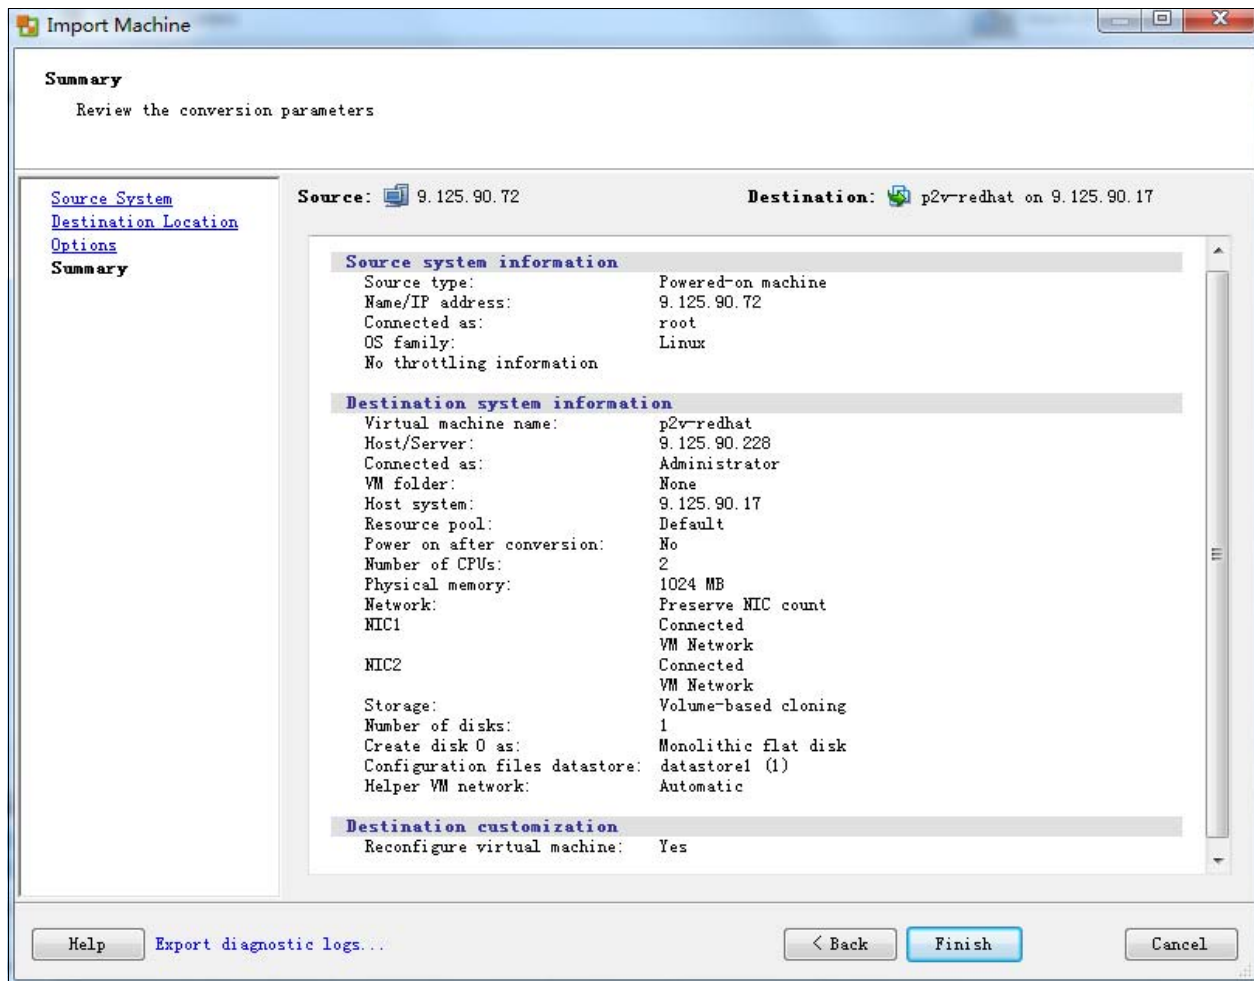

Figure 3-41 Import Machine wizard: Summary
8. Click **Next** to confirm the setting (see Figure 3-41). Click **Finish**.